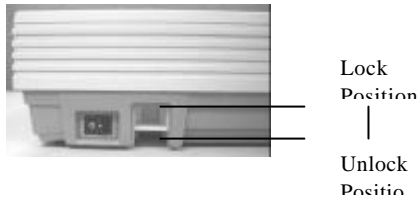

Figure 2-1 Unlocking the Shipping switch
- ii). Unlock the scanner by moving the lock switch on the left side of the scanner to the “Unlock” position (See Figure 2-1).